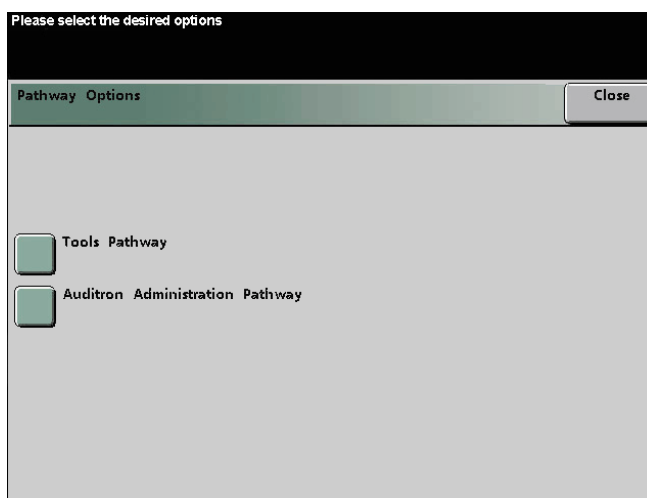

Figure 1. Pathway Options screen
- 3 Touch the **Enter** button on the screen. The Pathway Options screen appears, as shown in Figure 1.